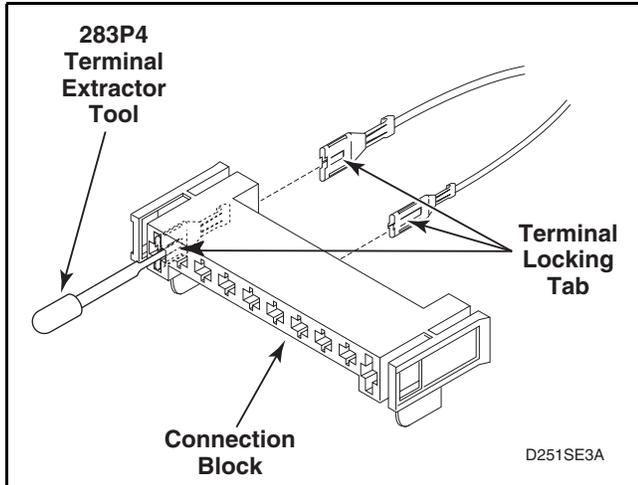

Figure 29
- (1) Insert the tool into the block on the back of the terminal being removed. Refer to *Figure 29*.
- (2) Apply tool pressure to compress the terminal locking tab on terminal and force the terminal and wire out back side of connection block. Refer to *Figure 29*.